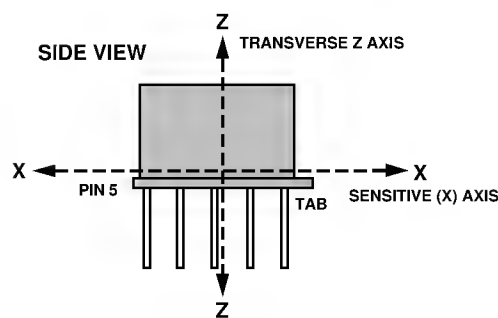

Figure 2a. Sensitive X and Transverse Z Axis
The ADXL50 responds to the component of acceleration on its sensitive X axis. Figures 2a and 2b show the relationship between the sensitive “X” axis and the transverse “Z” and “Y” axes as they relate to the T O-100 package.
Sensitive Axis (X): The most sensitive axis of the accelerometer sensor. Defined by a line drawn between the package tab and Pin 5 in the plane of the pin circle. See Figures 2a and 2b.